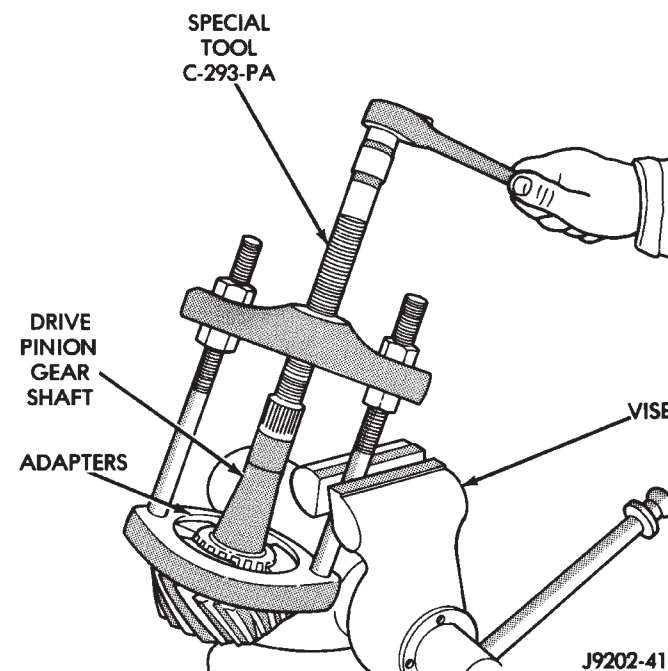

Fig. 24 Inner Bearing Removal
(7) Remove the inner bearing from the pinion with Puller C-293PA and Adapter C-293-39 (Fig. 24).